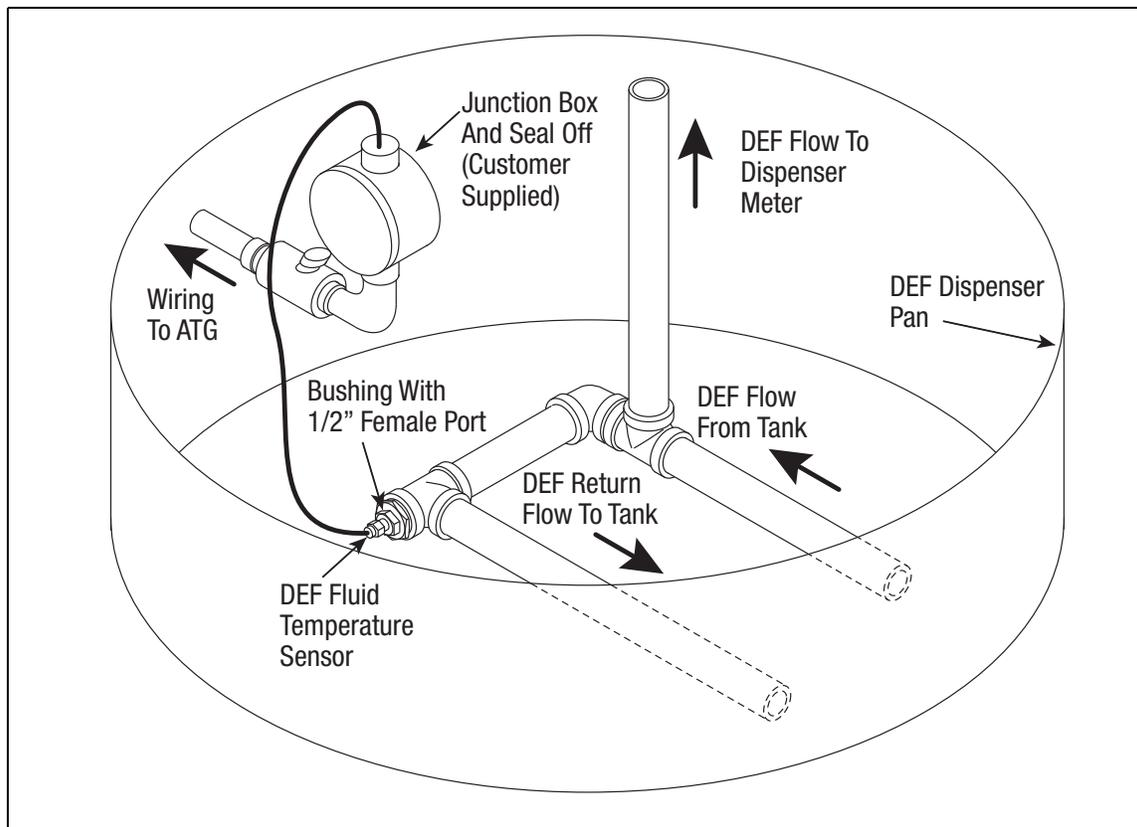

Figure 6. DEF Temperature Sensor Example Installation
2. Install a bushing in the line which has a female 1/2" NPT port at the desired sensor location (see example in Figure 6).